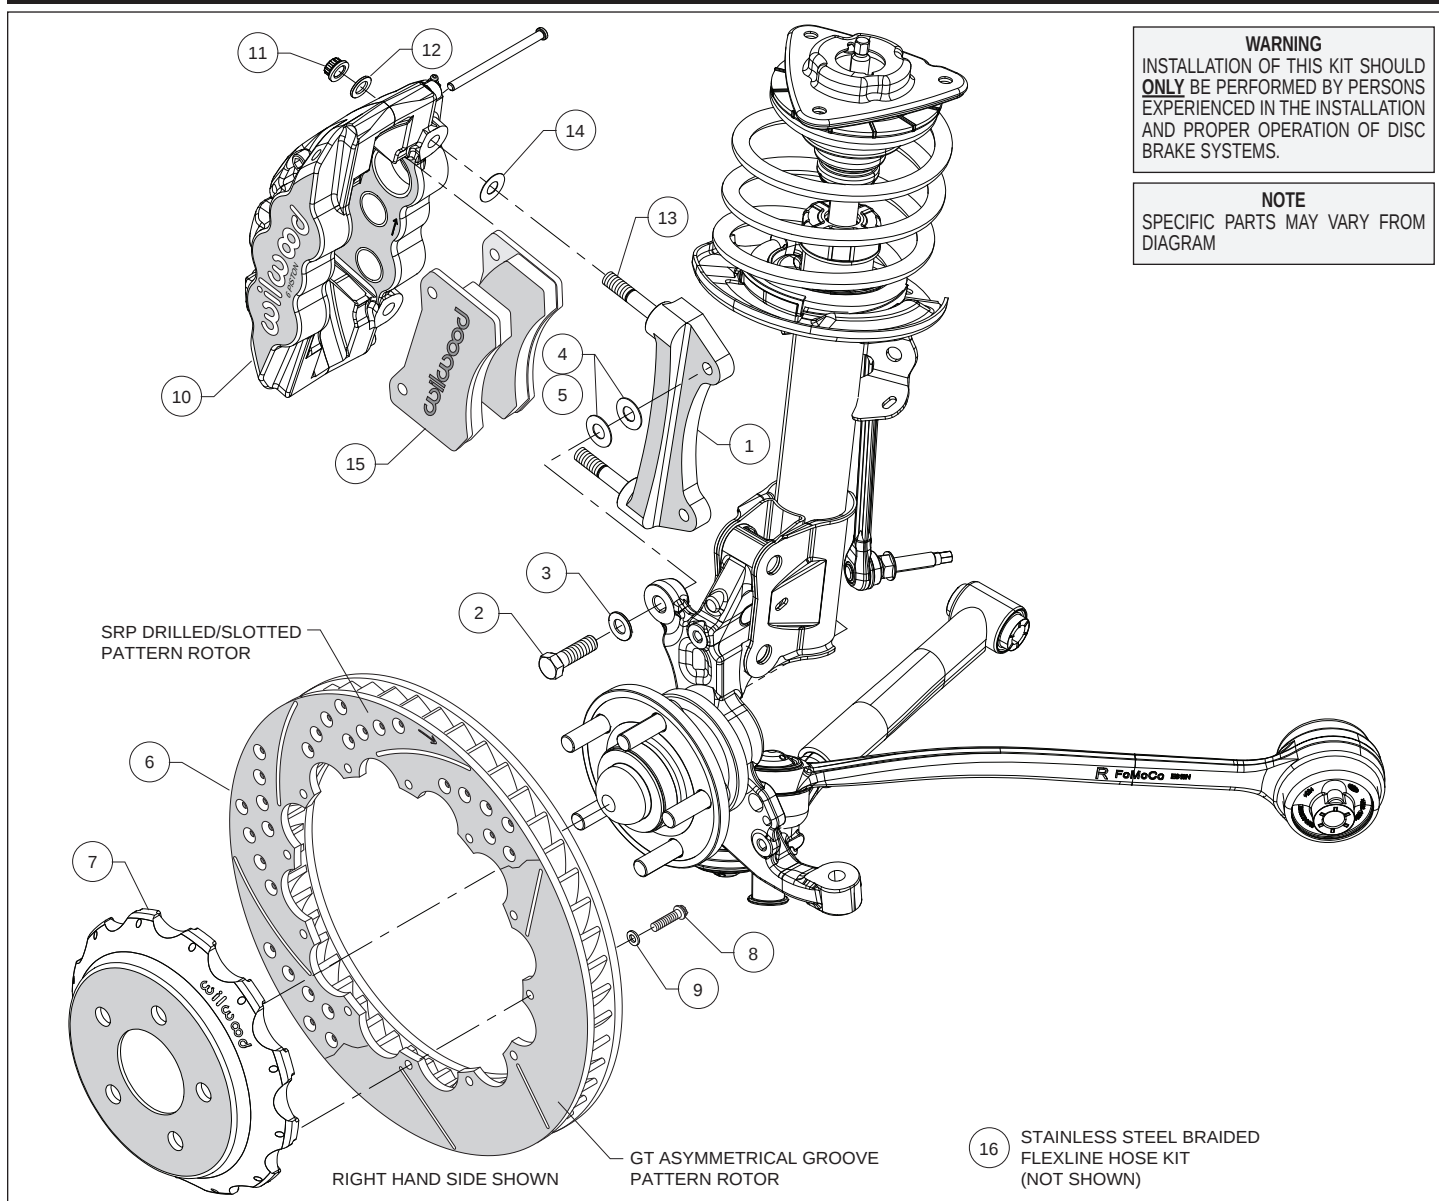
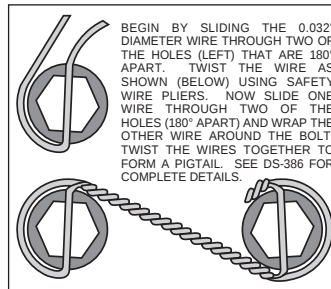

Figure 1. Typical Installation Configuration
Figure 3. Safety Wire Diagram
Assembly Instructions (numbers in parenthesis refer to the parts list and Figure 1 on the preceding pages):
- The caliper mount bracket (1) should initially be installed with clean, dry threads on the mounting bolts. Orient the bracket, as shown in Figure 1 and Photo 1, and install using bolts (2) and washers (3). Initially place two .033" thick shims (4) on each bolt between the bracket and upright, Figure 1. Temporarily tighten the mounting bolts. **NOTE: The bracket must fit squarely against the mount bosses on the upright.** Inspect for interference from casting irregularities, machining ridges, burrs, etc. Later, after the caliper alignment has been checked, the mount bolts will be secured using red *Loctite*® 271.
- Orient the rotor (6) and the hat (7) as shown in Figure 1 and Photo 2. Attach rotor to hat using bolts (8) and washers (9). Using an alternating sequence, apply red *Loctite*® 271 to the threads, and torque to 155 in-lbs. For an added measure of security, the bolts may be safety wired using standard 0.032 inch diameter stainless steel safety wire as shown in Figure 3. Refer to Wilwood's data sheet DS-386 (available at www.wilwood.com/Pdf/DataSheets/ds386.pdf) for complete safety wire installation instructions.
- **NOTE: This kit contains distinct right and left hand calipers that must be mounted in a specific direction, as described below.** Lubricate the caliper mounting studs (13) with lightweight oil. Initially place one .030" thick shim (14) on each stud between the caliper and the bracket, as shown in Figure 1 and Photo 4. Mount the caliper (10) onto the bracket (1) using lock nuts (11) and washers (12), Figure 1. Temporarily tighten the lock nuts. Ensure that the caliper is mounted so the largest pistons are at the rotor exit end of the caliper, in relation to the direction of the rotor. View the rotor through the top opening of the caliper. The rotor should be centered in the caliper, Photo 5. If not, adjust by adding or subtracting shims (4 and/or 5) between the bracket and the upright. Always use the same amount of shims on each of the two mounting bolts. Once the caliper alignment is correct, remove the bracket mounting bolts one at a time, apply red *Loctite*® 271 to the threads, and torque to 60 ft-lbs.
- Remove the two pad retaining pins from the caliper (10) by carefully popping out the pin retaining clips and sliding out the pins. Insert the brake pads (15) into the caliper from the bottom, Figure 1 and Photo 6. With the friction material facing the rotor, secure the brake pads in place with the pad retaining pins and clips, Photo 7. Reinstall the caliper onto the caliper mounting bracket and temporarily tighten the lock nuts. Check that the top of the brake pad is flush with the outside diameter of the rotor, Photo 8. If not, adjust by adding or subtracting shims (14) between the caliper and the bracket. After the caliper pad height is set, torque the caliper lock nuts (11) to 47 ft-lb.